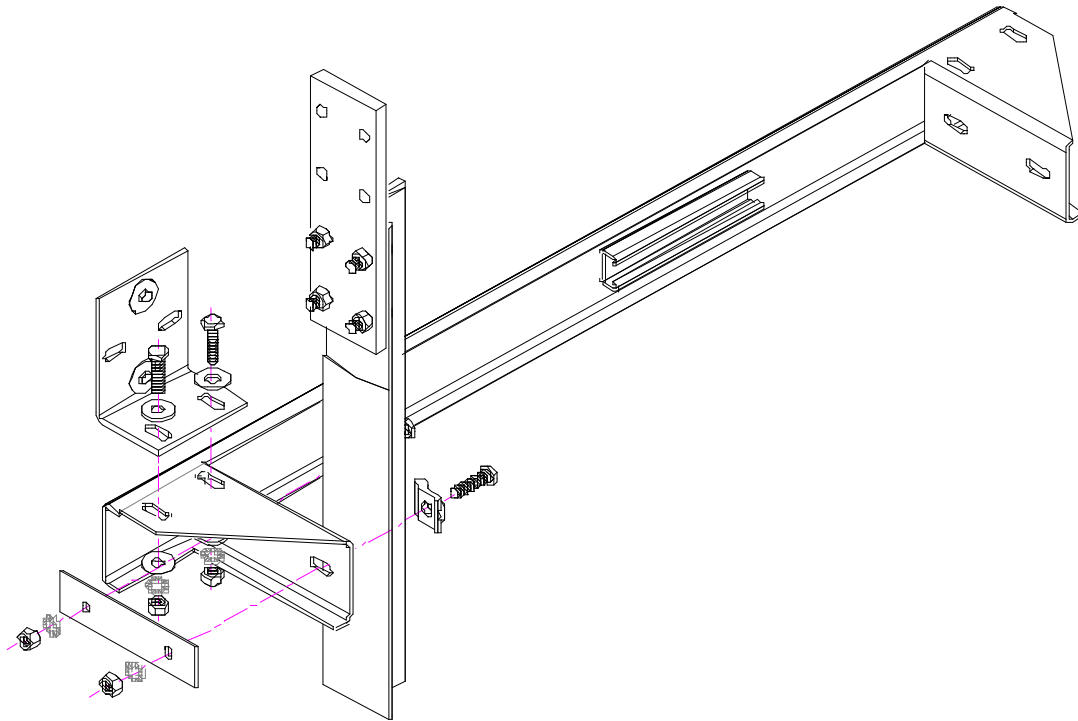

Figure 3
6. Loosely install rail bracket mounting angles (hangers) to the wall using dimensions at the top of the same view, then attach to the rail brackets loosely with appropriate fasteners <Fig. 3>.